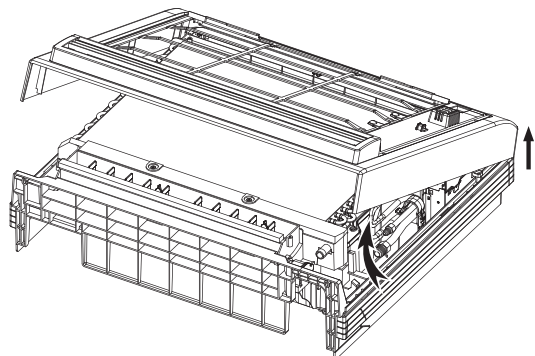

Fig. 13 — Remove the front cover
3. Remove the front cover (see Fig. 13).